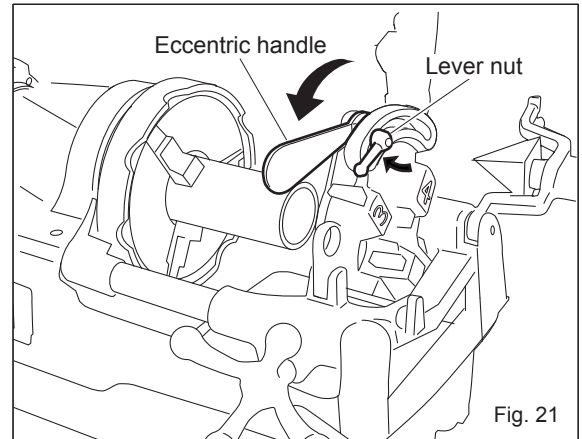

Fig. 21
- To match the size of the thread, align the scale on the Eccentric link (Fig. 19-1) with the thread size on the size scale on the die head, and then tighten and fix the lever nut in position (Fig. 21).